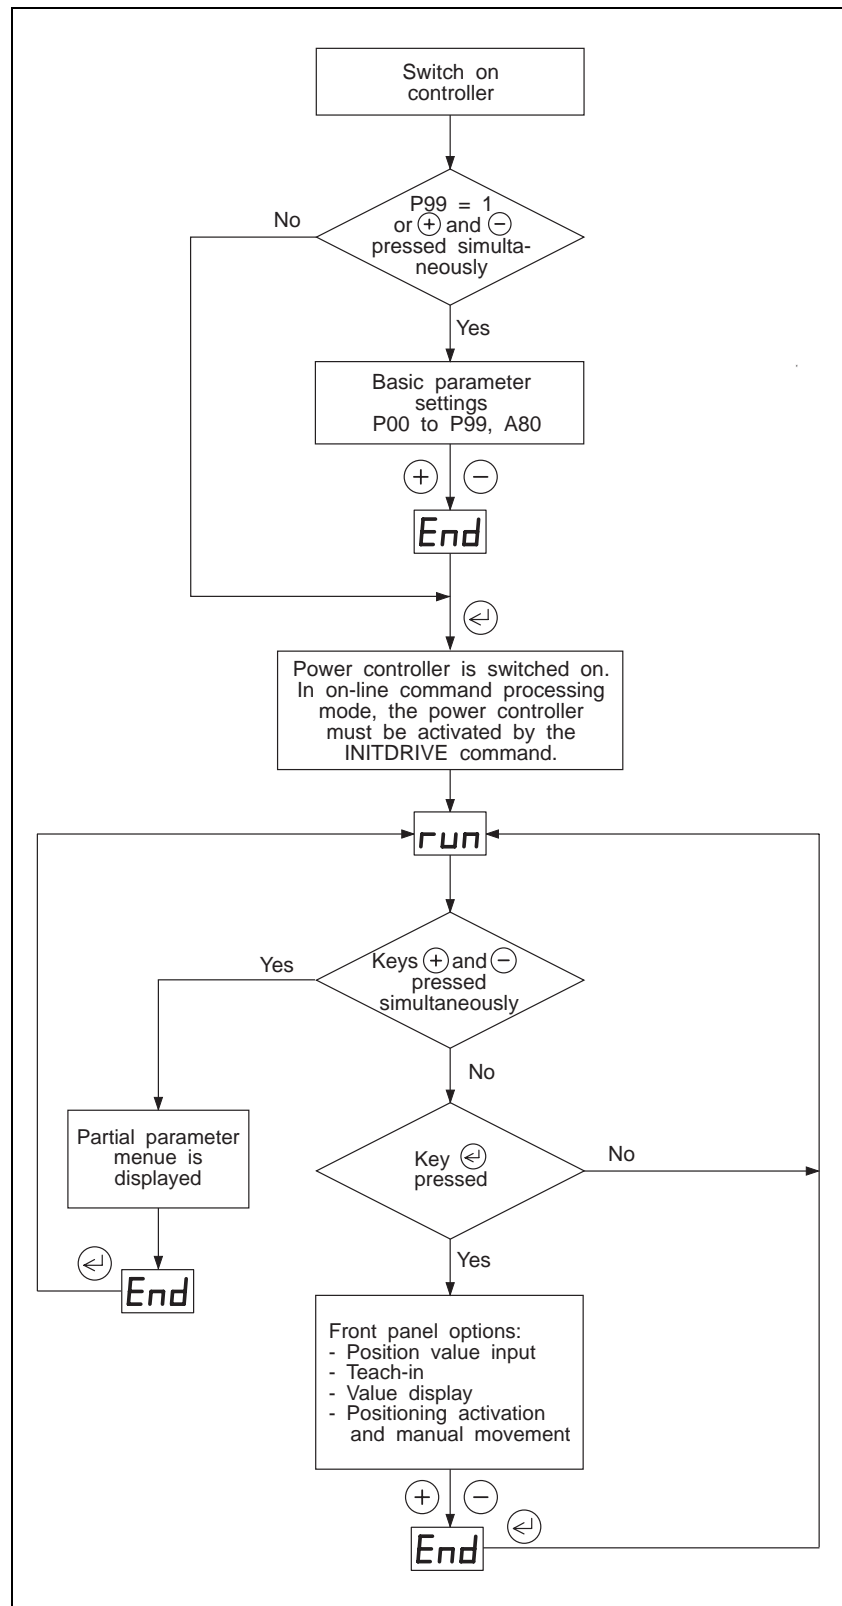

Fig. 3-2 Front panel operation
4. Two basic modes are available, depending on the parameter P99 setting (see fig. 3-2):